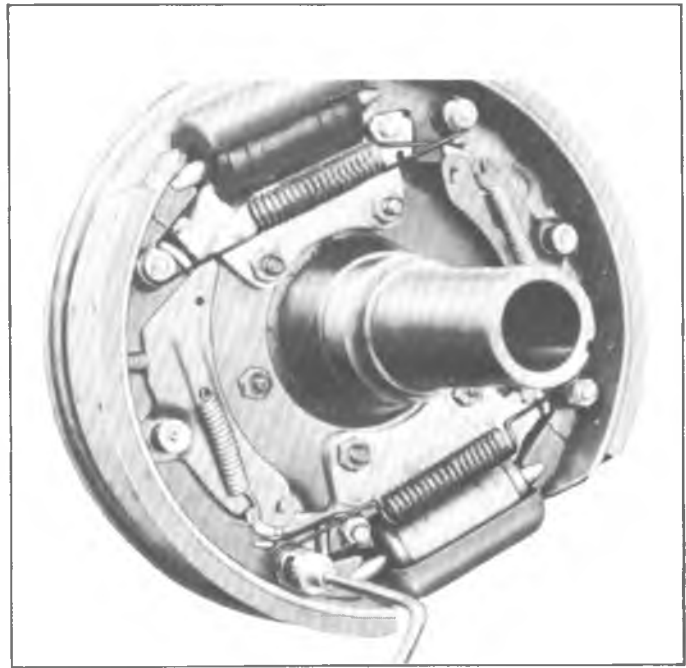

Fig. 76--Removing Pull Pack Spring with Tool J-22348
3. Using Tool J-22348, remove the brake shoe pull back springs (fig. 76).